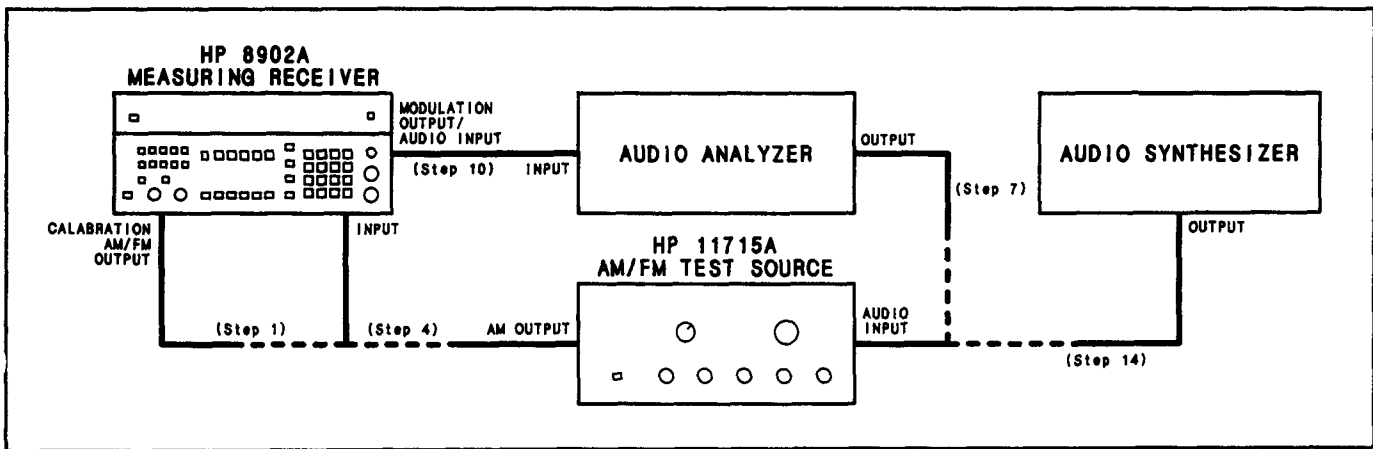

Figure 4-1. AM Performance Test Setup
- 4. On the AM/FM test source, set the test mode switch to AM. Connect the test source AM output to the Measuring Receiver's INPUT. (See Figure 4-1. Nothing should be connected to the test source's audio input.)
- 7. Set the audio analyzer's oscillator to 20 kHz. Connect its output to the audio input of the AM/FM test source. (See Figure 4-1.)
10. Connect the audio analyzer's input to the Measuring Receiver's MODULATION OUTPUT/AUDIO INPUT. (See Figure 4-1.) Set the audio analyzer to measure the distortion on the 20 kHz signal at the MODULATION OUTPUT/AUDIO INPUT with 80 kHz of low-pass filtering (on the audio analyzer). The distortion should be 0.3% or less (-50 dB or less).
14. Set the audio synthesizer to 1 kHz at +1 dBm. Connect its output to the audio input of the AM/FM test source. (See Figure 4-1.) Fine adjust the audio synthesizer level for a Measuring Receiver display of 80% AM.